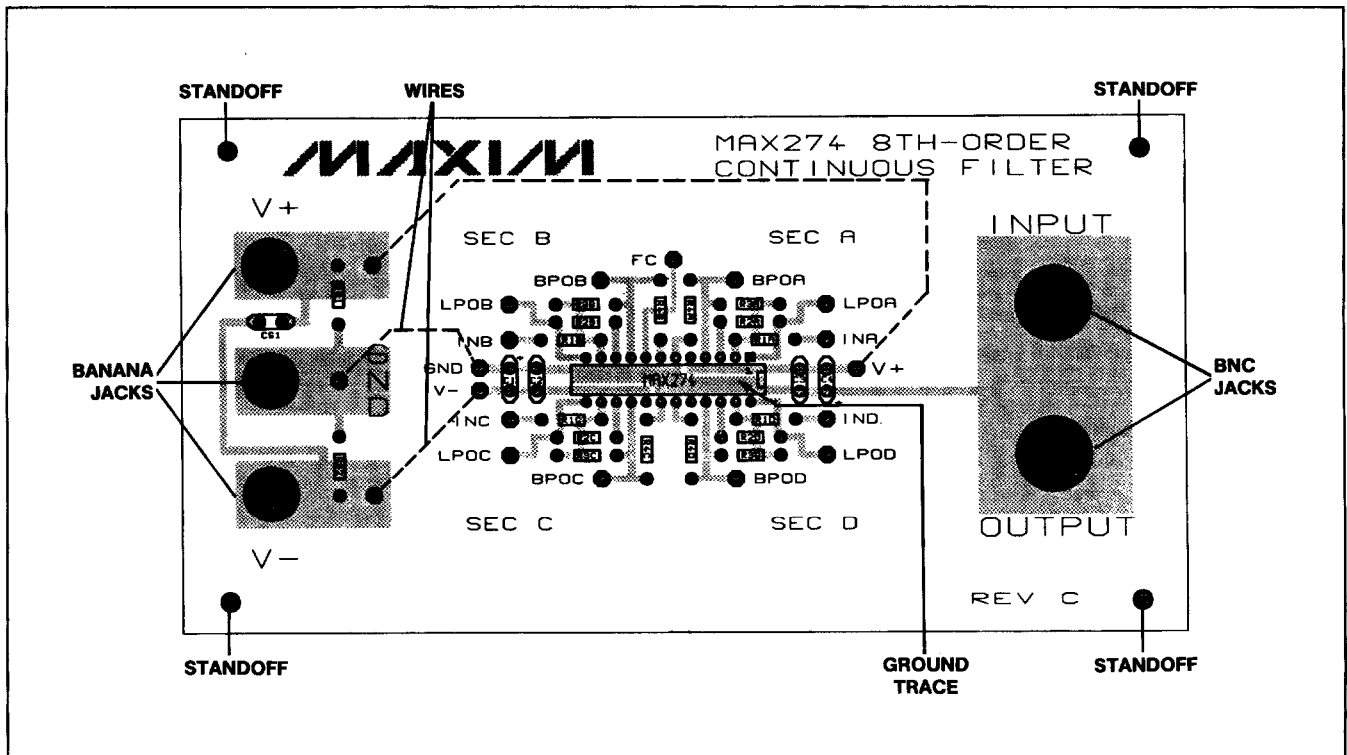
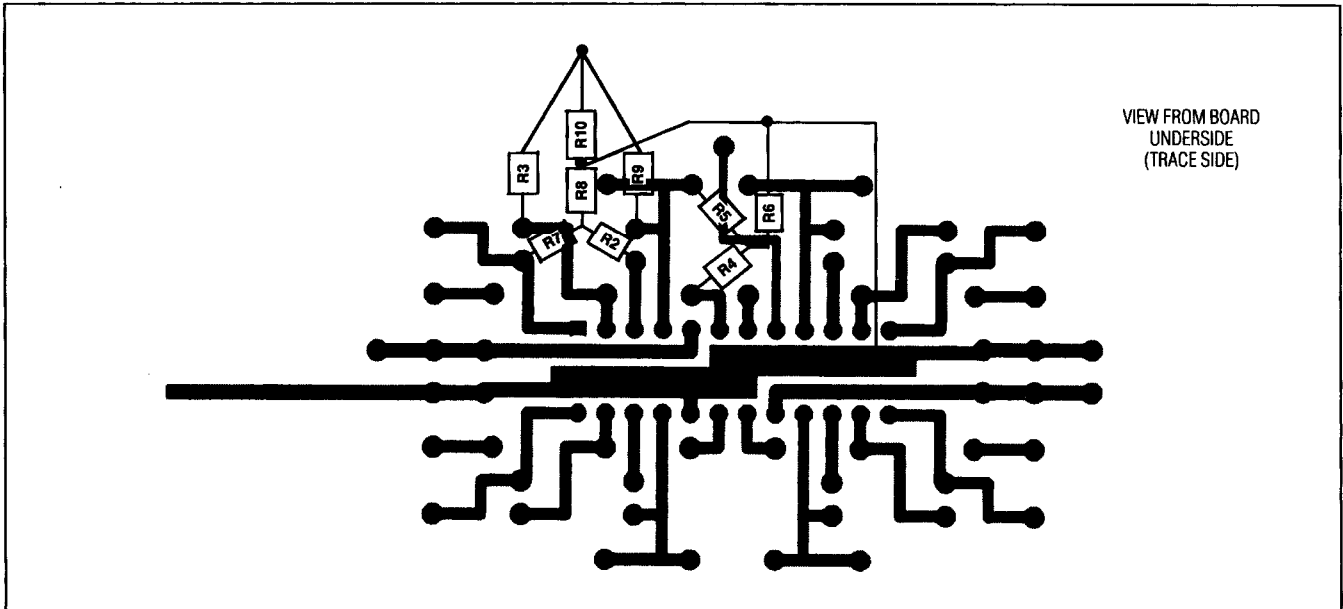

Figure 2. MAX274 EV Kit Component Placement Diagram
Figure 3. T-Network PC Board Connections
1. Install BNC connectors and banana jacks as shown in Figure 2. Connect wires from the V+, GND, and V- jacks to the nodes designated V+, GND, and V- on the circuit. Install MAX274 IC as shown (or install an IC socket if desired).
On the PC board, scratch off the green soldermask from the ground trace (Figure 2). Where required, substitute each normal resistor connection (R2, R3, or R4) with three T-network resistors on the underside of the board, using jumper wire to connect the T-network ground connection with the ground trace on the PC board (Figure 3).
where FPK is the frequency at which the gain at BPOA is greatest (this may not be equal to  $F_o$ ); and the -3dB bandwidth is the difference between the two frequencies at which BPOA is attenuated by 3dB from its peak gain. Repeat these measurements for filter sections B, C, and D. For more information, refer to Figure 2 of the MAX274 data sheet, *Bandpass Output*.